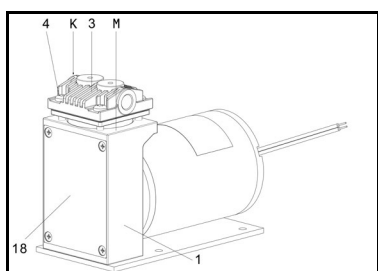
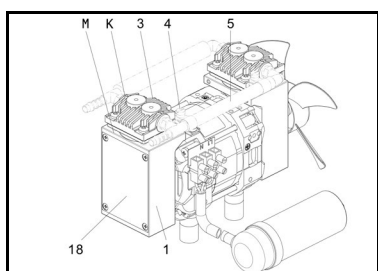
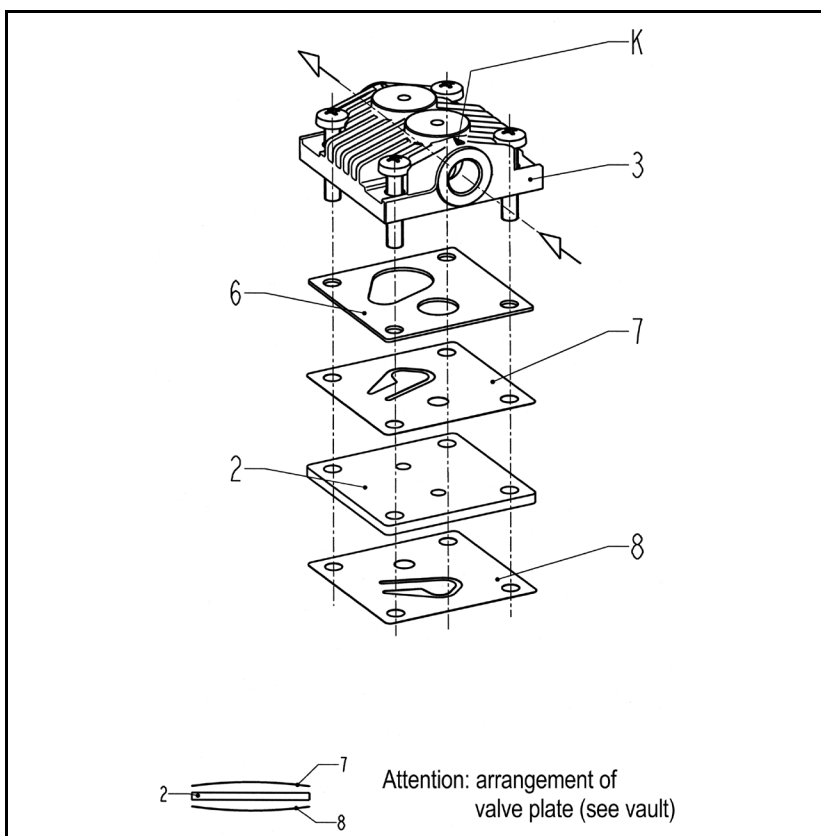

Fig. 8: Pump element (single head types)
Fig. 9: Pump element (twin head types)
Fig. 11: Pump head (all types)
**i** The item numbers within the following work instruction refer to Fig. 8 to Fig. 11.
2. Make a mark (**M**) on the ribbed head (**3**), intermediate plate (**2**), and housing (**1**) with a felt-tip pen (see **M** in Fig. 8 and Fig 9). This helps avoid incorrect assembly later.
4. Fasten the "piston assembly" by tightening the screw (14).
Stack the following parts on top of each other in the order given - ribbed head (3), gasket (6), valve plate (7), intermediate plate (2), and valve plate (8). Fig. 11 shows the correct orientation of the parts, particularly the valve plates, in relation to the compression symbol on the head plate. Both valve plates are identical, and they can be fitted either way up. The intermediate plate can also be fitted either way up.
6. Place the "head assembly" on the pump housing (1) - as a guide to orientation see Fig. 8 or Fig 9. Reference point is the compression symbol (indicated with a **K** in the diagrams), or the mark (**M**).
7. Tighten the screws (4) at first lightly, then firmly by hand, in a diagonal pattern (max. tightening torque 1.5 Nm).
- check the position and orientation of gasket (6), valve plate (7), intermediate plate (2) and valve plate (8). See fig. Fig. 8, Fig 9 and Fig. 11.